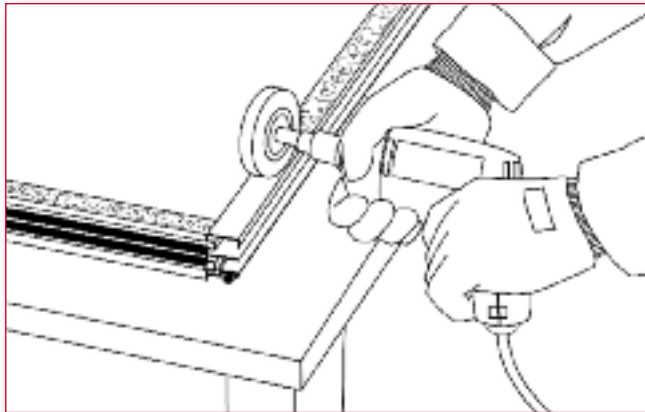

Figure 26: 3M™ Stripe Off Wheel
2. Residue removal – The 3M™ Stripe Off Wheel (part # 07498) is a special rubber disk which mounts to a standard corded or cordless electric drill and can be used to remove the adhesive residue from the glass panel and metal frame (Figure 26). When the rotating disk is brought in contact with the adhesive residue, it lifts and removes the adhesive from the surface. The wheel will not damage the surfaces if used properly. It may help to remove the bulk of the adhesive residue with a razor or sharp knife before using the Stripe Off Wheel. Another alternative is to grasp a portion of the adhesive residue and attempt to stretch and release the tape from the frame or glass. This should be attempted before cutting the adhesive residue and often results in a complete and clean removal.